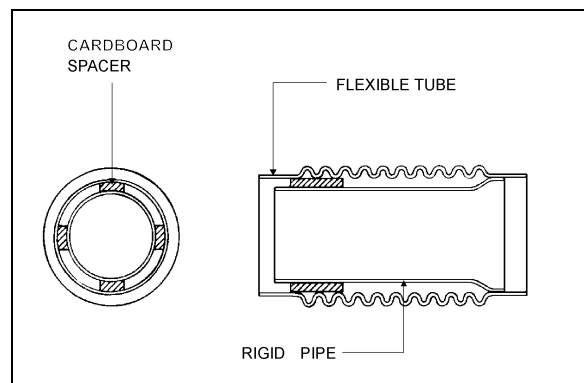

FIGURE 1: FLEXIBLE TUBE INSTALLATION
- FIGURE 1: FLEXIBLE TUBE INSTALLATION 2
The flexible exhaust tube contains a rigid interior pipe (Fig. 1). To allow appropriate flexibility for assembly, be sure interior pipe is concentric to flexible part. To maintain the pipe centered at time of installation, insert cardboard spacers as shown (Fig. 1). These spacers may be left in place for they will deteriorate over time.